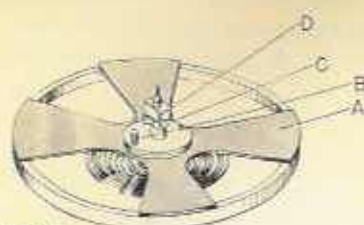

FIGURE 5
Figure 5 shows the balance (bottom view) which is similar to an ordinary screwless balance with the usual flat hairspring. Soldered to the bottom, however, is an additional four-winged section (A) of mumetal, the rotor. The roller jewel (B), unlike the D-shaped jewel-pin in mainspring watches, is cylindrical. Moreover, it does not receive power from the pallet fork, but instead imparts motion to it.
Above the level of the cylindrical jewel pin is a safety roller (C), which functions as in traditional watches, to prevent overbanking. Mounted above it is an additional part, the contact roller, which provides a necessary electrical contact. For this purpose a high-conducting metal tab is attached to one of its flat sides. This can be seen at D in Figure 5.
The electric circuit begins at the energy cell (+) and travels into the hairspring stud through the balance staff, and into the contact roller (C, Figure 5). When, as part of the balance motion, the tab on the contact roller makes contact with the contact